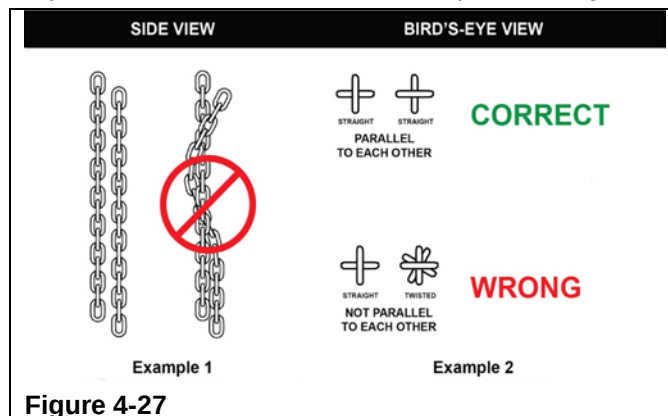

Figure 4-27
Step 36. Ensure that both chains are parallel to each other and have NO twists in them when they are installed into the chain nest. (Refer to Figure 4-27)